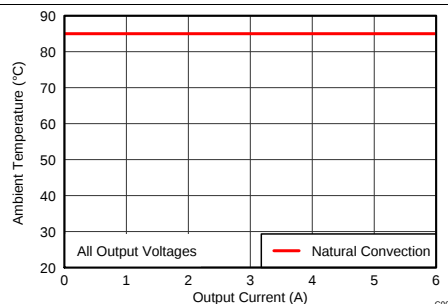

Figure 4. Safe Operating Area
- (2) The temperature derating curves represent the conditions at which internal components are at or below the manufacturer's maximum operating temperatures. Derating limits apply to devices soldered directly to a 100 mm $\times$ 100 mm double-sided PCB with 1 oz. copper. Applies to Figure 4.